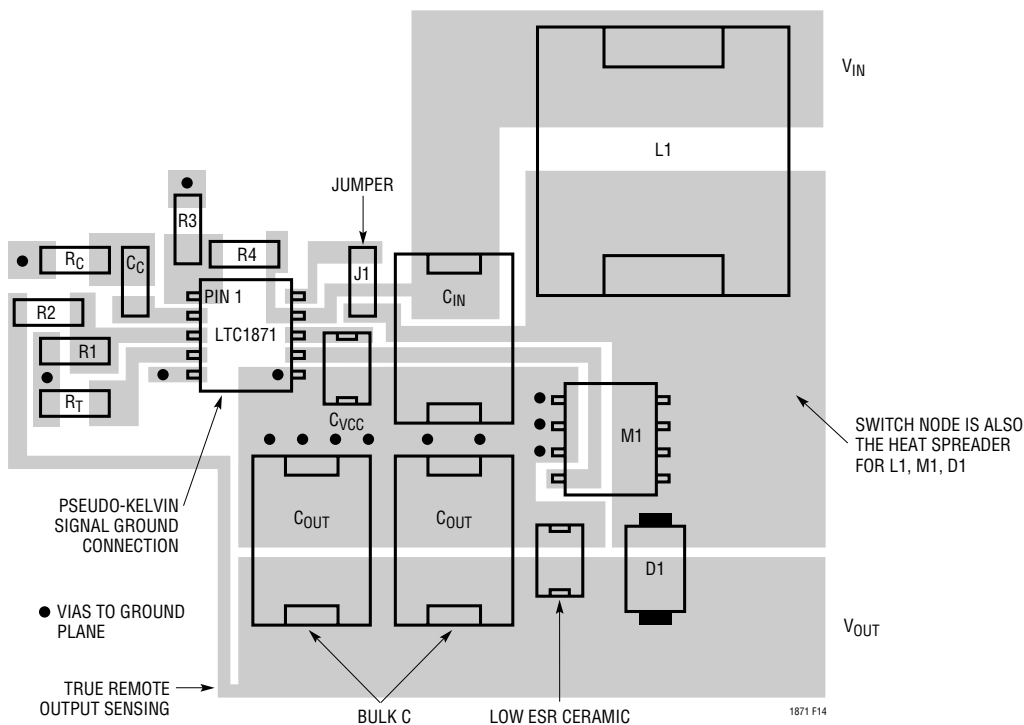

Figure 14. LTC1871 Boost Converter Suggested Layout
- Place the small-signal components away from high frequency switching nodes. In the layout shown in Figure 14, all of the small-signal components have been placed on one side of the IC and all of the power components have been placed on the other. This also allows the use of a pseudo-Kelvin connection for the signal ground, where high di/dt gate driver currents flow out of the IC ground pin in one direction (to the bottom plate of the $INTV_{CC}$ decoupling capacitor) and small-signal currents flow in the other direction.